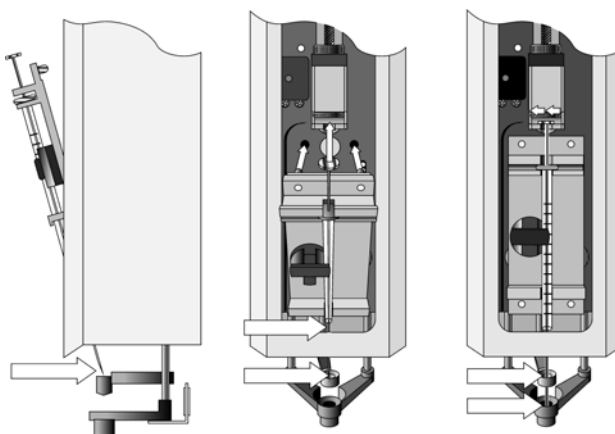

Figure 32. Installing and Removing a Syringe from the PAL IFC Injector Side
- 3 If necessary, loosen the plunger retaining screw in the plunger holder (see Figure 32).